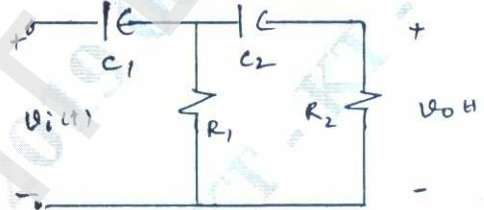

Fig.Q.2(a)
- 2 a. Obtain the transfer function of electrical system shown in Fig.Q.2(a). (05 Marks)